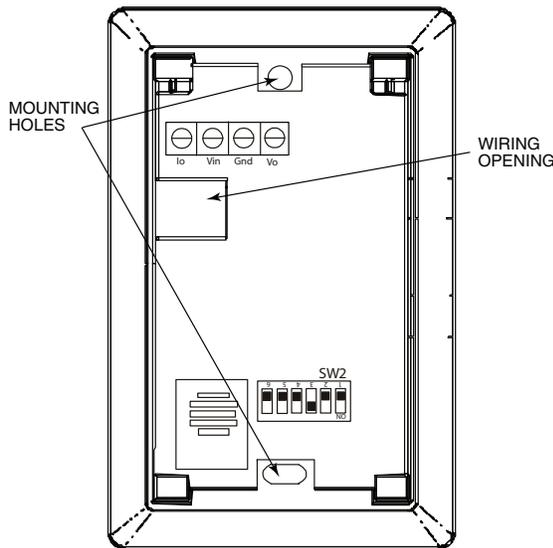

Fig. 86 — Space Relative Humidity Sensor Installation
If the sensor is installed directly on a wall service, install the humidity sensor using 2 screws and 2 hollow wall anchors (field supplied). Do not over tighten screws. See Fig. 86.
1. At the sensor, remove 4 inches of the jacket from the cable. Strip ¼ inch of insulation from each conductor. Route the cable through the wire clearance opening in the center of the sensor. See Fig. 86.